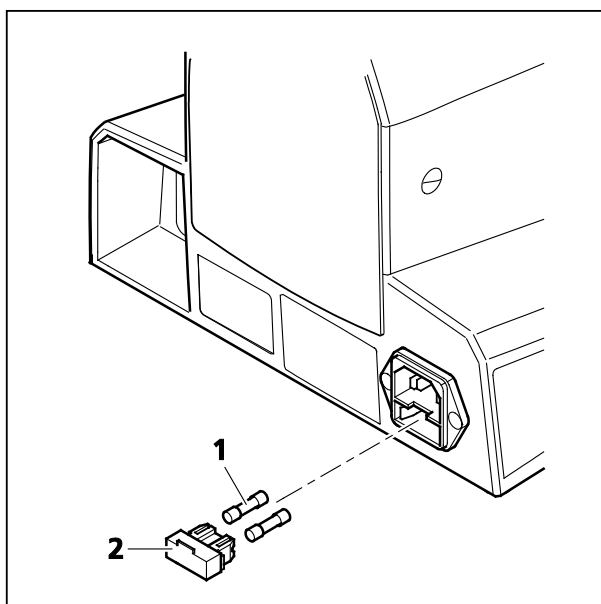

Fig. 5-1 Replacing Fuses
- Pull out the fuse holder (Fig. 5-1/2) frontward. If necessary, use a small screwdriver for that.
- Remove the fuses (Fig. 5-1/1) from the fuse holder and replace them with new ones.